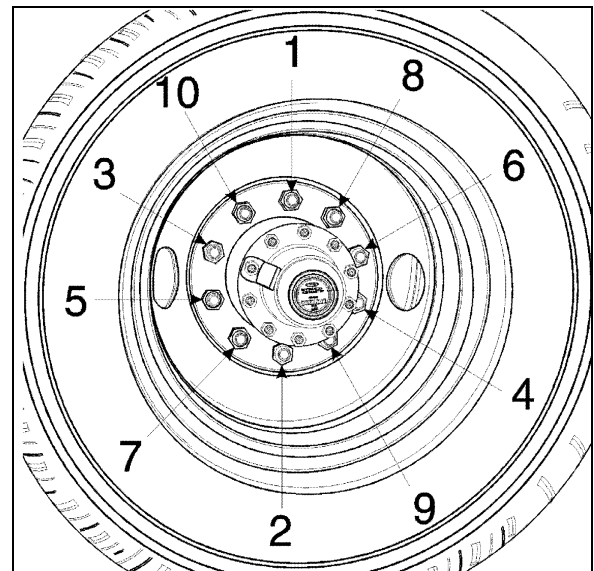
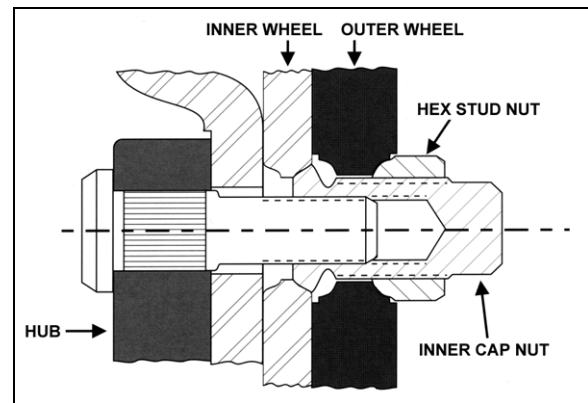

FIGURE 2: TIGHTENING SEQUENCE
FIGURE 4: STUD-MOUNTED WHEELS
It is also important that wheel stud nuts be tightened alternately on opposite sides of the wheel. Refer to Figure 2 for the suggested tightening sequence.
Tighten stud nuts progressively as shown in Figure 2. The final tightening should be done with a torque wrench. Tighten stud nuts to 450 - 500 lbf-ft (610 - 680 Nm) for aluminum as well as steel wheels.
2. Screw in the hex stud nuts (refer to Figure 2 for sequence) so that wheel will position itself concentrically with hub. This is important, otherwise wheel may be eccentric with hub and will not run straight. In this initial step, slightly tighten the nuts to correctly position the wheel;
3. Tighten stud nuts progressively as shown in Figure 2. The final tightening should be done with a torque wrench. Tighten stud nuts to 450 - 500 lbf-ft (610 - 680 Nm) for aluminum as well as steel wheel.
2. Screw in the inner cap nuts (Fig. 4), so that wheel will position itself concentrically with hub. Refer to Figure 2 for sequence;
3. Tighten inner cap nuts progressively according to sequence shown in Figure 2. Final tightening should be done with a torque wrench. Tighten inner cap nuts to 450 - 500 lbf-ft (610 - 680 Nm) for aluminum as well as steel wheel.
With inner wheel installed, tighten the hex stud nuts (Fig. 4) using the single wheel installation procedure described previously.
1. Loosen a hex stud nut three turns (Fig. 4);
Repeat for each of the 10 "hex stud nut - inner cap nut assemblies" according to the tightening sequence in figure 2.